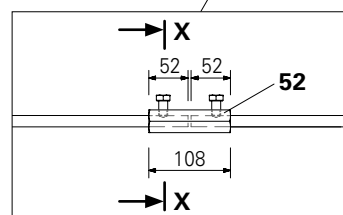

Fig. A7.04b
5. Screw the hex. nut back until the flat side of the tie rod is perpendicular to the bolt. (Fig. A7.04b + c)
6. Hand-tighten\* the second hex. bolt (**52.2**). (Fig. A7.04b + c) → Coupled tie rods are secured.
- Check tightness of bolts M12 x 20 of the tie rod extensions. (Fig. A7.04b +c)